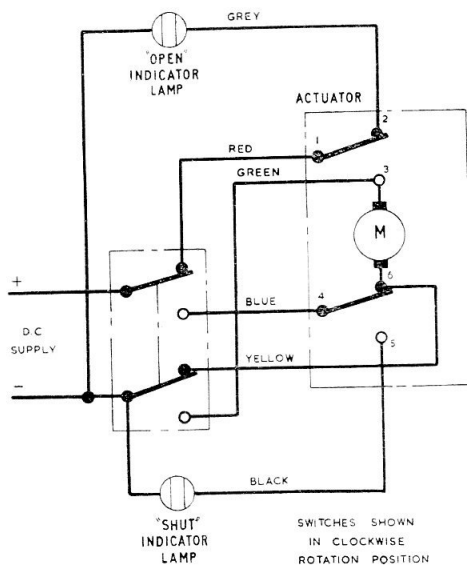

Fig. 1. Circuit diagram
1. The C5029 rotary actuator is similar to others in the C5000 series; provision is made for external indicating lamps in the clockwise and anti-clockwise positions (*fig. 1*). No adapter housing is fitted as the unit is mounted direct to the associated driven unit.